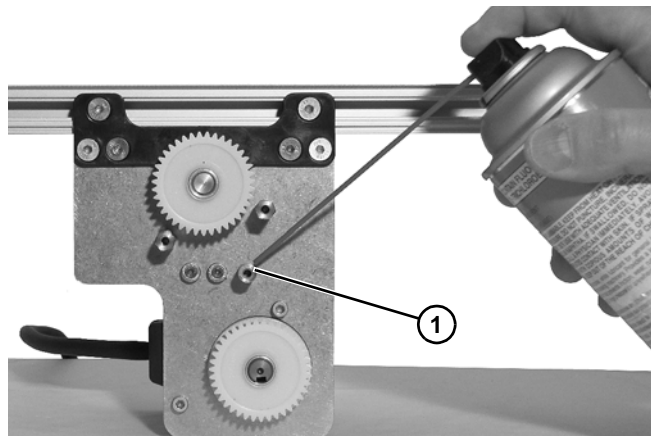

Figure 7
6. Apply a small amount of food grade grease to the shaft (**Figure 7, item 1**) of the middle gear.